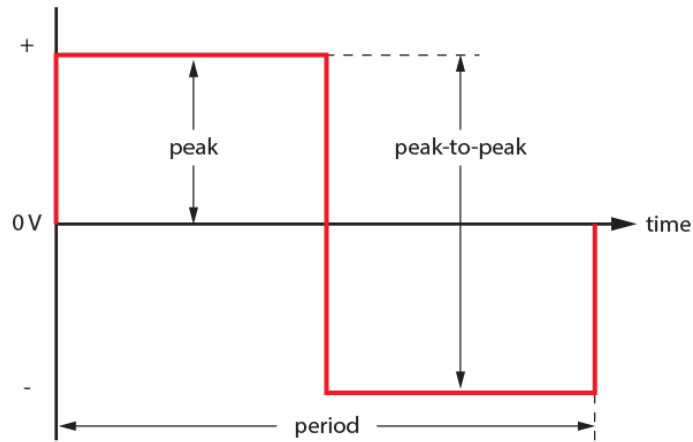

Figure 3
2.2.6 Figure 3 shows how these measurements apply to a square wave. Record the readings and CRO settings in Table 2.